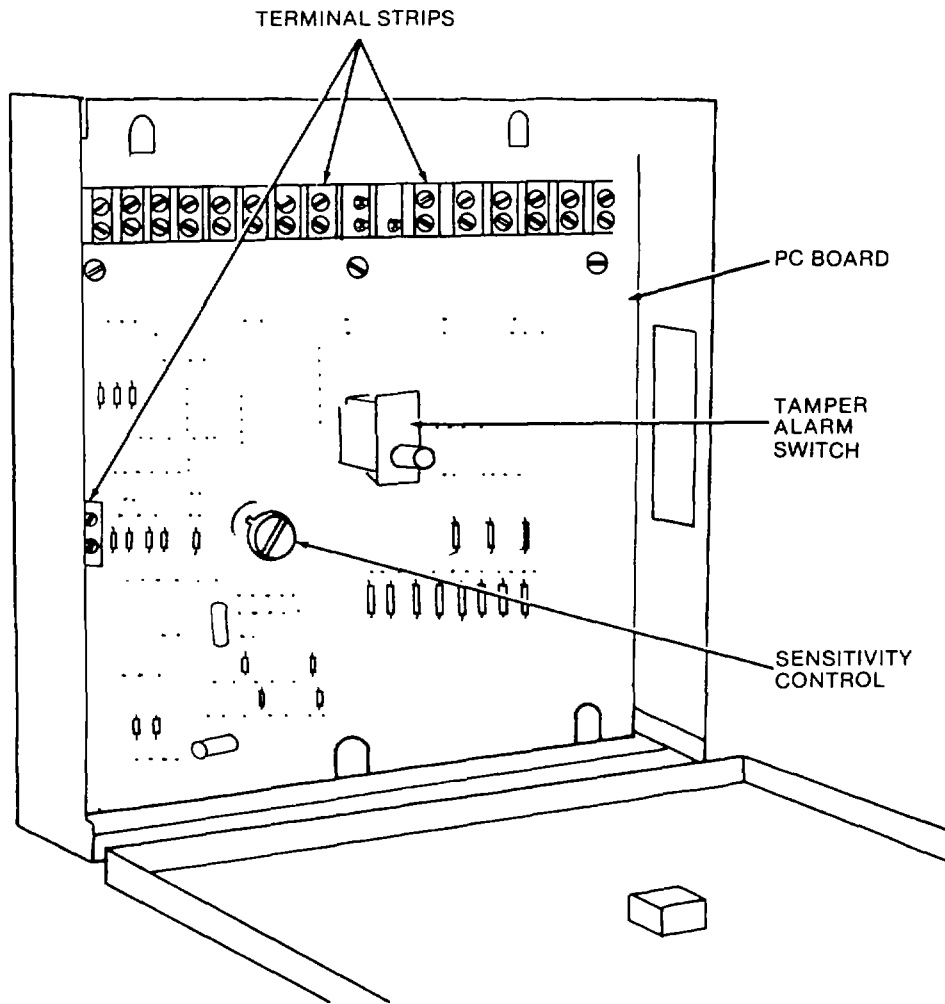

Figure 1-1. Processor with Cover Removed
- b. The Processor (fig. 1-1) consists of a printed circuit board (PC board) mounted inside a steel housing. Mounted on the PC board are the sensitivity control, tamper alarm switch (TAS), terminal